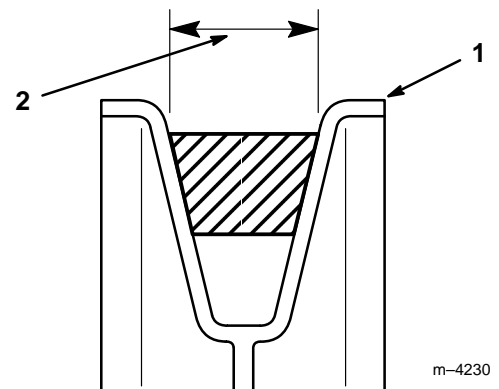

Figure 11
7. Make certain that the wide side of the PTO drive belt is toward the outside diameter of **all (four) pulleys (Fig. 11).**